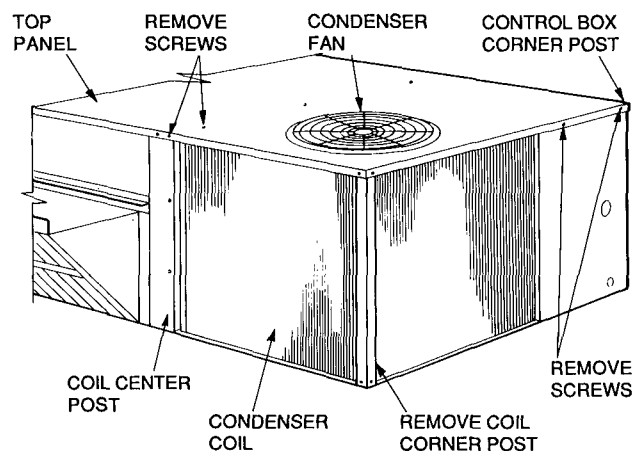
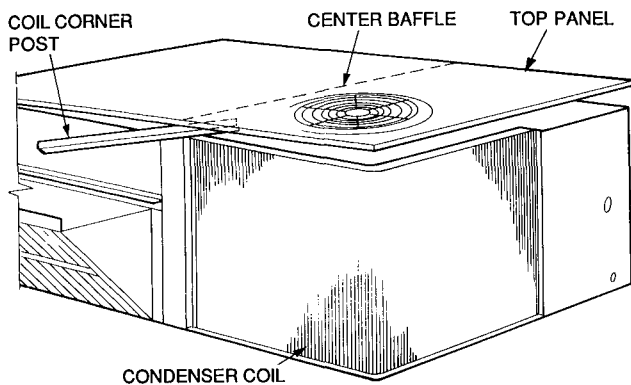

Fig. 12 — Cleaning Condenser Coil
Fig. 13 — Propping Up Top Panel
3. Remove condenser coil corner post. See Fig. 12. To hold top panel open, place coil corner post between top panel and center post. See Fig. 13.